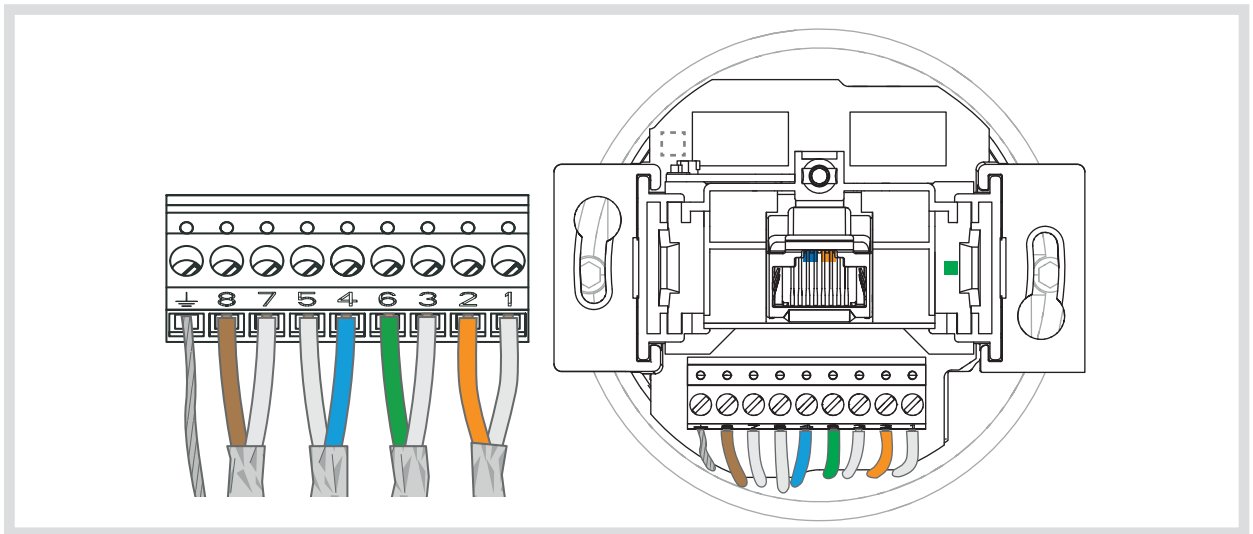

Figure 5
- Pull off 9pole terminal block (2) from the device and lay the wires according to the prescribed colour coding (Table 3).
- i** The assignments on the terminal block (2) must match those of the patch panel in the network.
- Mount terminal block onto the contact pins (3) (Figure 5).